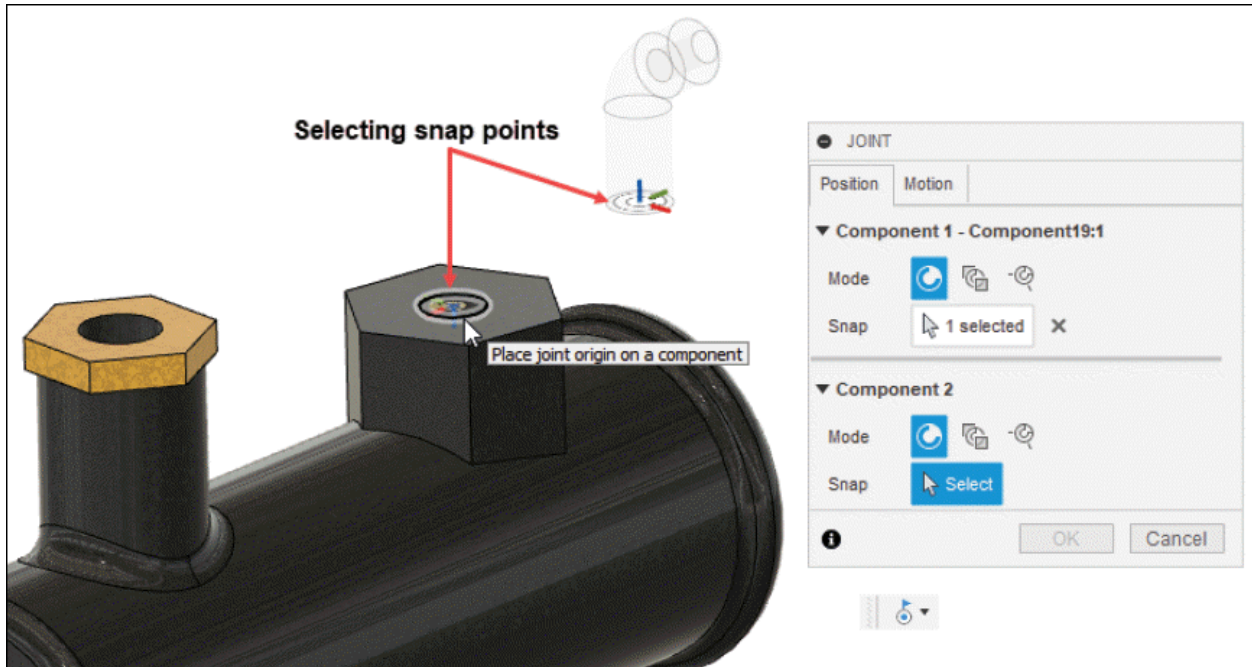

Figure-92. Selecting snap point on the components
- Select snap point on both Component 1 and Component 2 as shown in Figure-92.